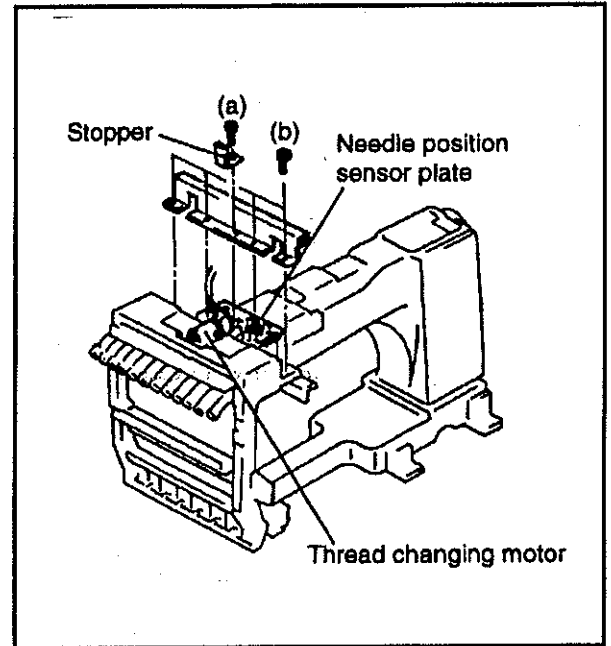

FIG.1
- (2) Connect all connectors on the circuit board.
- (3) Temporarily secure the sensor plate with four retaining screws (b). Position the plate so that it does not contact the photo-sensor slot and firmly tighten the screws (Fig. 1 and 3).
- (4) Temporarily secure the stopper with retaining screw (a). Position the stopper so that it slightly contacts the motor shaft and tighten the screw (Fig.1).
- (5) Mount the arm cover.